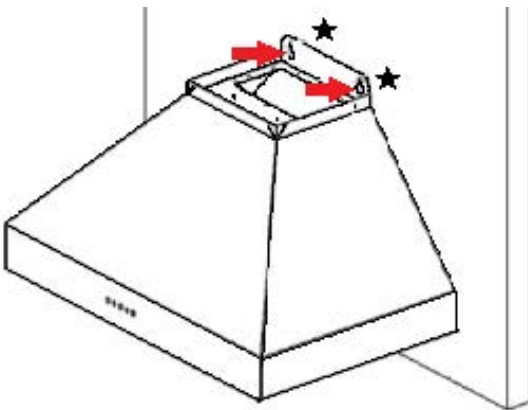

Figure 2.
3. Place the hood on the wall with the center to the vertical reference line and make sure the bottom part of the hood aligns with the horizontal line. With the range in position, mark the wall at the center of the holes in the bracket and remove the hood from the wall. Finally drill the holes and fix the expansion bolt. **NOTES:** Make sure you are leaving the heads out $\frac{1}{4}$ " to mount the hood. *Figure 2.*